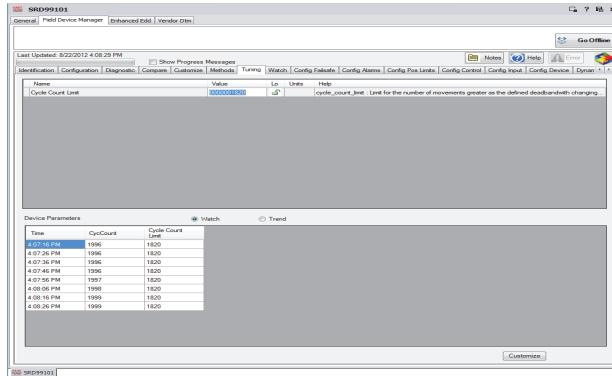

Figure 5. Tuning Screen
- ▶ The Tuning tab (Figure 5) is an on-line continuously updating screen with a top section used to adjust or change up to eight instrument variables and a bottom section to watch the results on up to eight variables in either trend line or table format. The adjustable variables placed on the top area are typically used to change instrument state, mode or trigger a device method such as auto starting or calibration of a valve positioner.